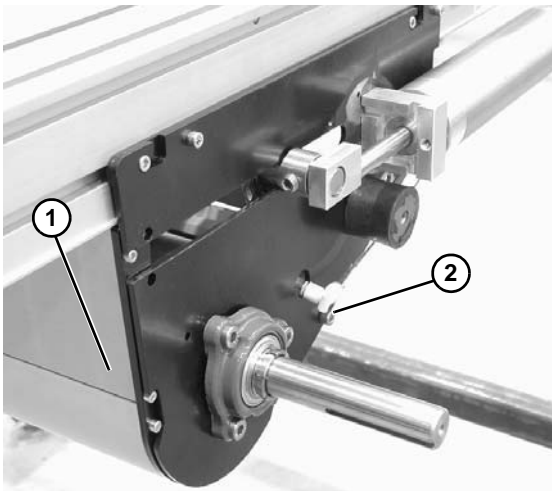
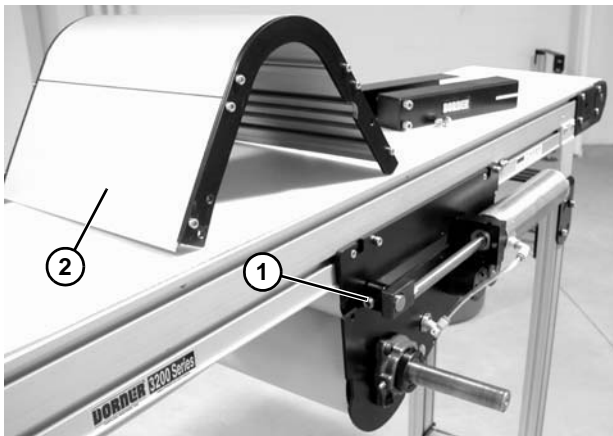

Figure 35
Figure 36
- Temporarily support the tensioning roller guard (Figure 35, item 1). Remove screws (Figure 35, item 2) on both sides of center drive and remove tensioning roller guard (Figure 35, item 1) and (Figure 36, item 2).
- Loosen tensioning roller set screws (Figure 36, item 1).